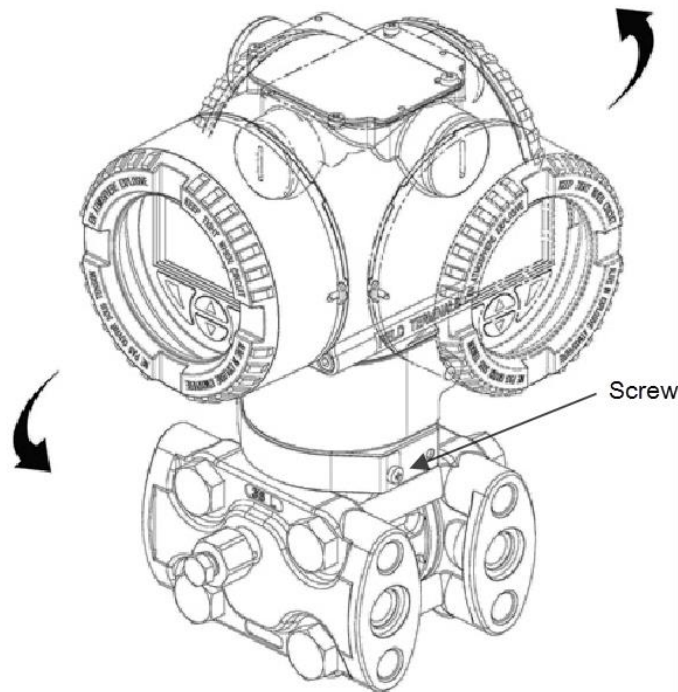

Figure 18: Transmitter housing rotation and stop-screw
3. Retighten the screw once the desired position has been reached (Figure 18).